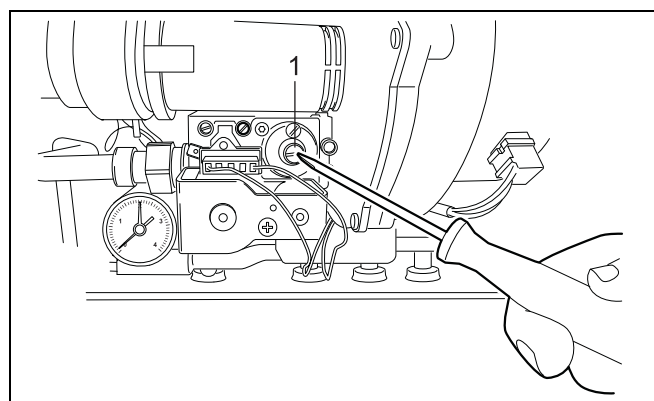

fig. 60 Adjusting the gas/air ratio
- If the gas/air ratio is incorrect, it can be adjusted on the set screw (fig. 60, pos. 1).